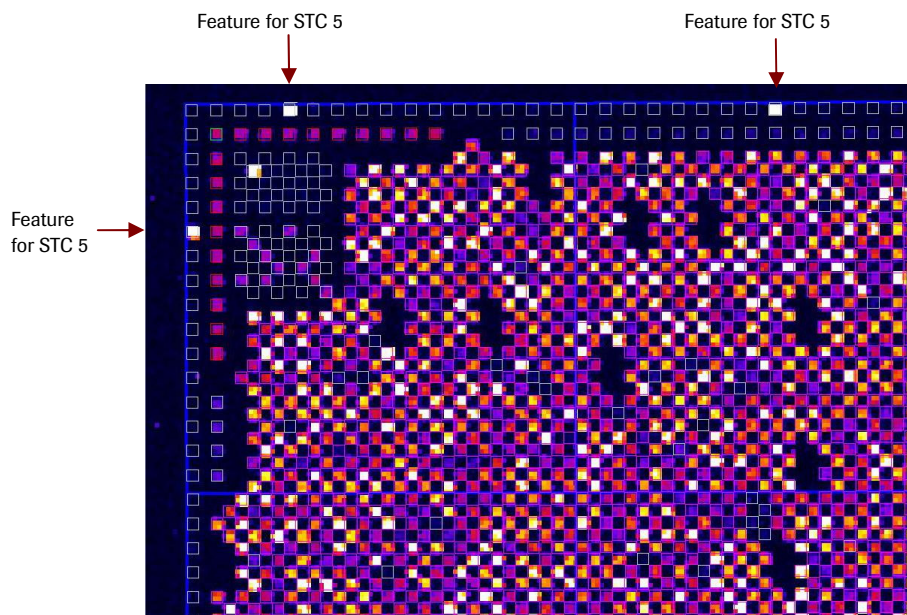

Figure 25: Example of an Array Hybridized with Sample Containing STC 5
2. Locate the repeating set of 20 features along the perimeter of the array. Figure 25 shows an example of an array hybridized with a sample containing STC 5.